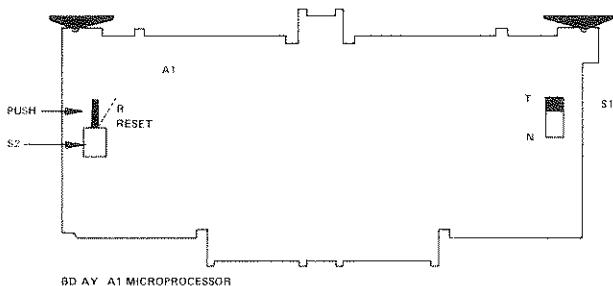

Figure 8-1. Location of Internal Switches
- Set A1S1 to T (Figure 8-1).
- Press the zero key (0) on the front panel – all indicators should light for approx 3 s.